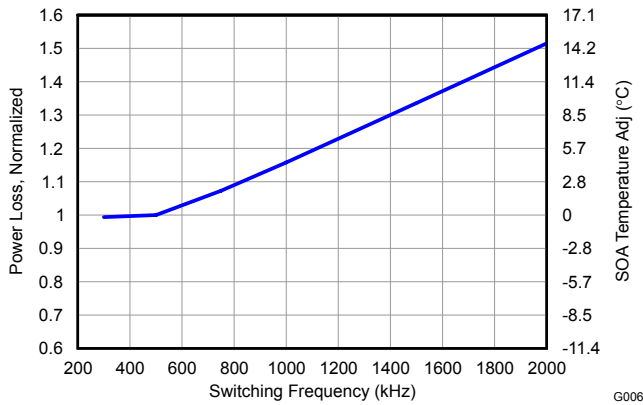

Figure 12. Normalized Power Loss vs Frequency
- Normalized Power Loss for switching frequency \approx 1.09 (Figure 12)
- SOA adjustment for switching frequency \approx 2.7 $^{\circ}$ C (Figure 12)